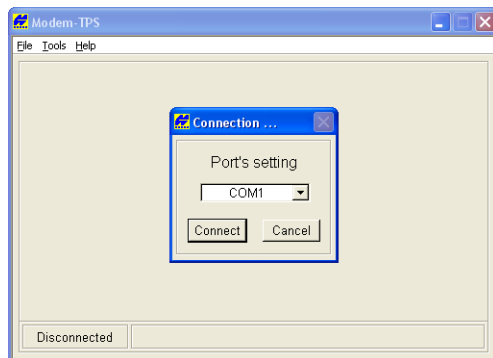

Figure 3-3. Connect to Modem-TPS
2. Open Modem-TPS and select the COM port the receiver is connected to (Figure 3-3). Click **Connect**.